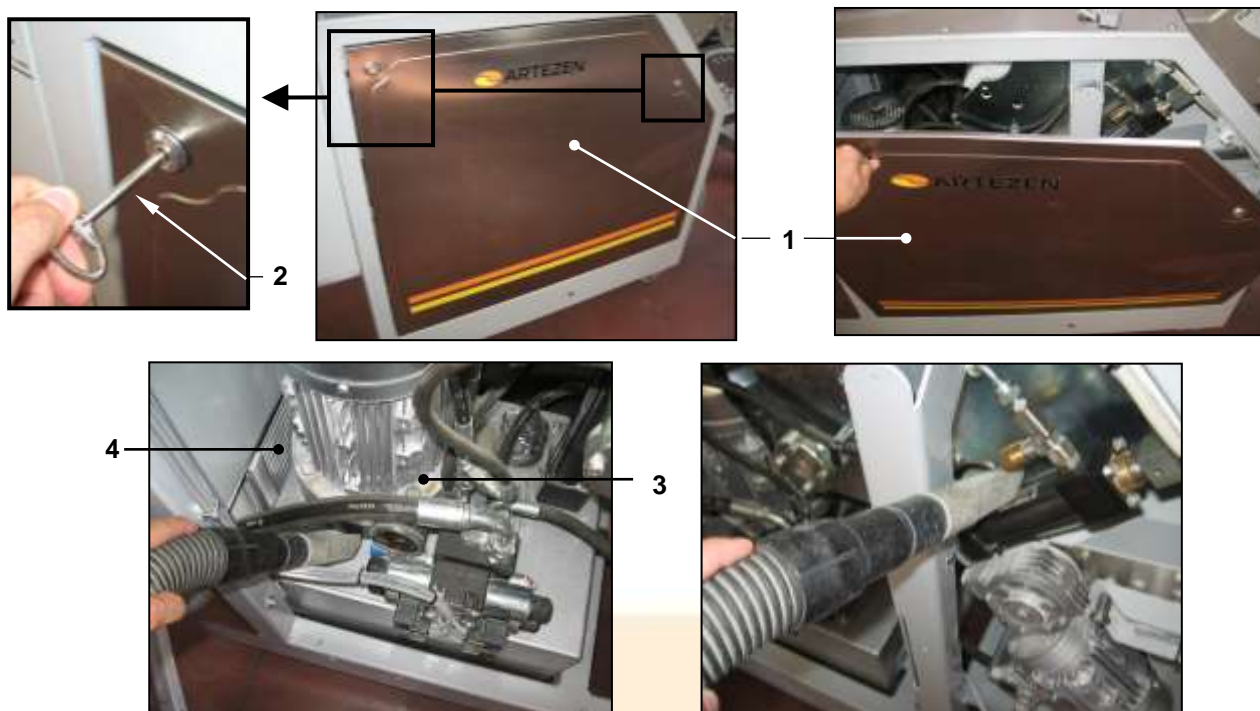

Figure 32 – Cleaning of the hydraulic block and heat exchanger
In the rear of the machine, under the electrical panel box, the fan is visible from the outside. The fan circulates air through the heat exchanger to maintain the oil temperature within its limits to preserve its characteristics as long as possible, thereby increasing the life span of the components of the hydraulic block. Once a week, check that the fan is rotating regularly and at a visibly constant speed when the machine is running. With reference to Figure 32, open the two side casings ref. 1, using the special key ref. 2, and use a vacuum with a narrow fitting to remove the dust and residues from the block ref. 3, and especially from the heat exchanger ref. 4; loosen any difficult residues with brief blasts of compressed air (after having put on a suitable mask to protect your respiratory system airways).